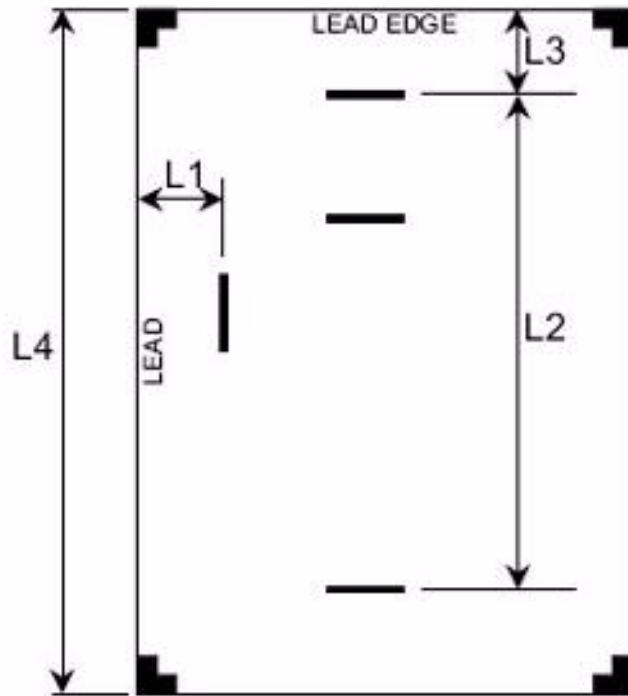

Figure 1 IIT Chart
5. Measure the **L1** length on each of the scanned images (Figure 1).